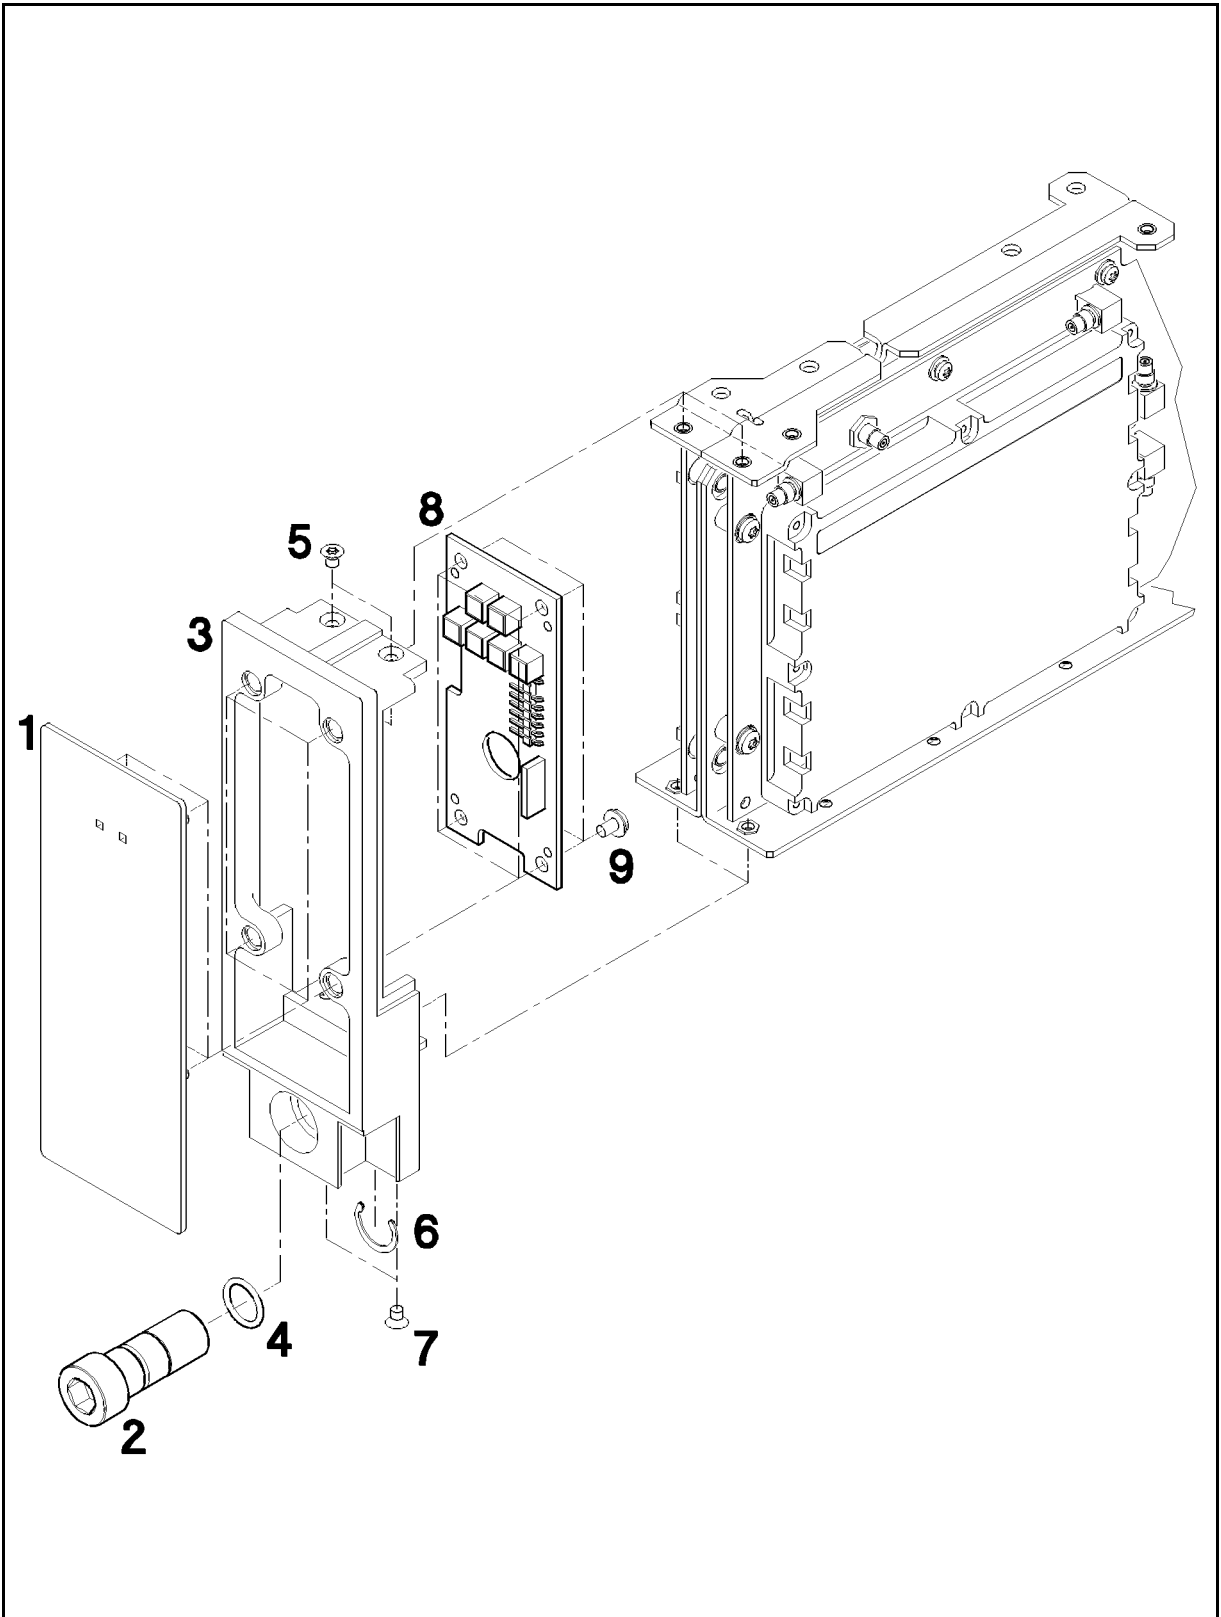

Figure 2-8. Front Panel Removal
4. Using a size 10 TORX® screwdriver, remove the two screws **(5)** from the top of the frame and the two screws **(7)** from the bottom of the frame. Save the screws. See Figure 2-8.
Reassembly is generally a simple reversal of the removal procedures. Refer to Figure 2-8.